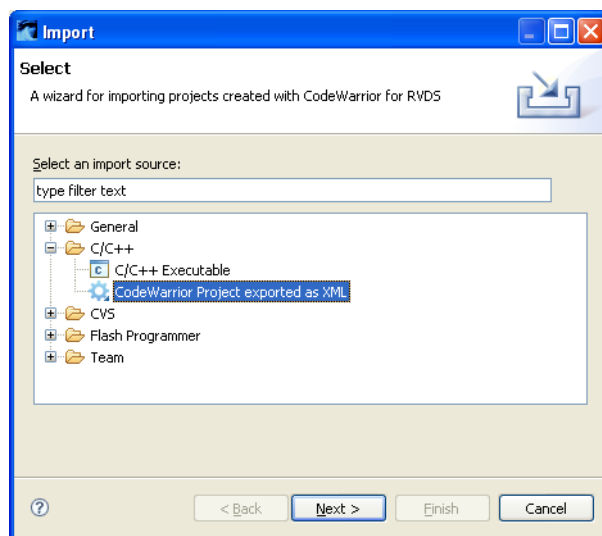

Figure 3-10 Selecting CodeWarrior XML
3. Select **CodeWarrior Project exported as XML** from the Import dialog box, see Figure 3-10. Click on **Next**.